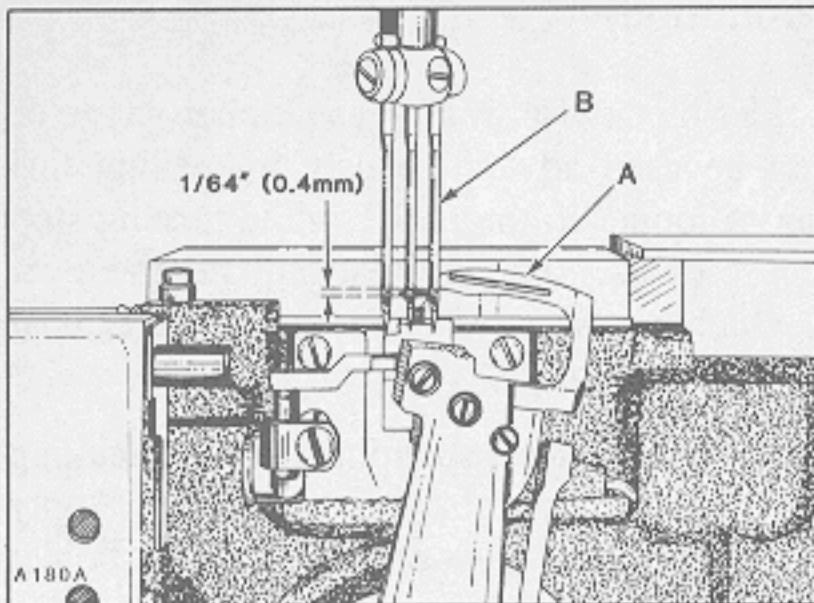
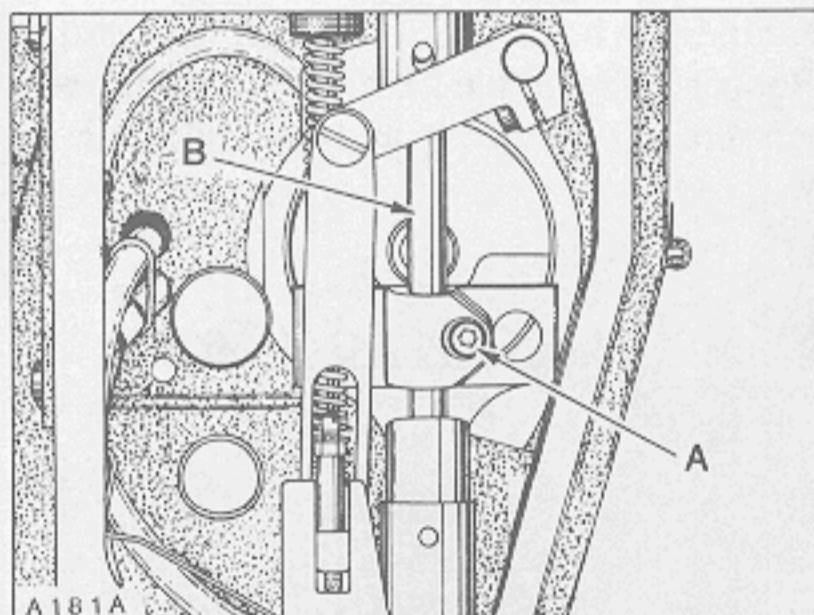

Fig.11
Fig.12
Turn handwheel in operating direction until POINT of RIGHT looper (A, Fig. 11) is even with the LEFT side of RIGHT needle (B). TOP of needle eye should be $1/64$ inch (.4mm) below the undersurface of looper blade, as shown in Figure 11. Adjustment can be made by loosening screw (A, Fig. 12) and move needle bar (B) up or down as required. TORQUE screw (A).